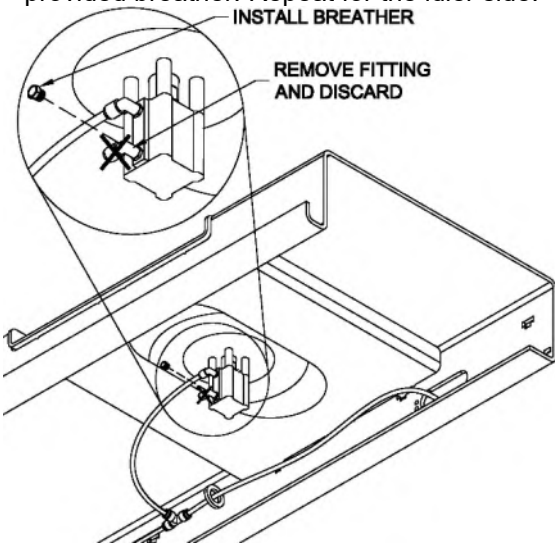

Fig 32- Turn Plate Installation
- 70) Connect free ends of front air lines to the turn plate locking cylinder: red air line to the top cylinder port **Fig 32**. Remove and discard the bottom air fitting and replace it with the provided breather. Repeat for the idler side.